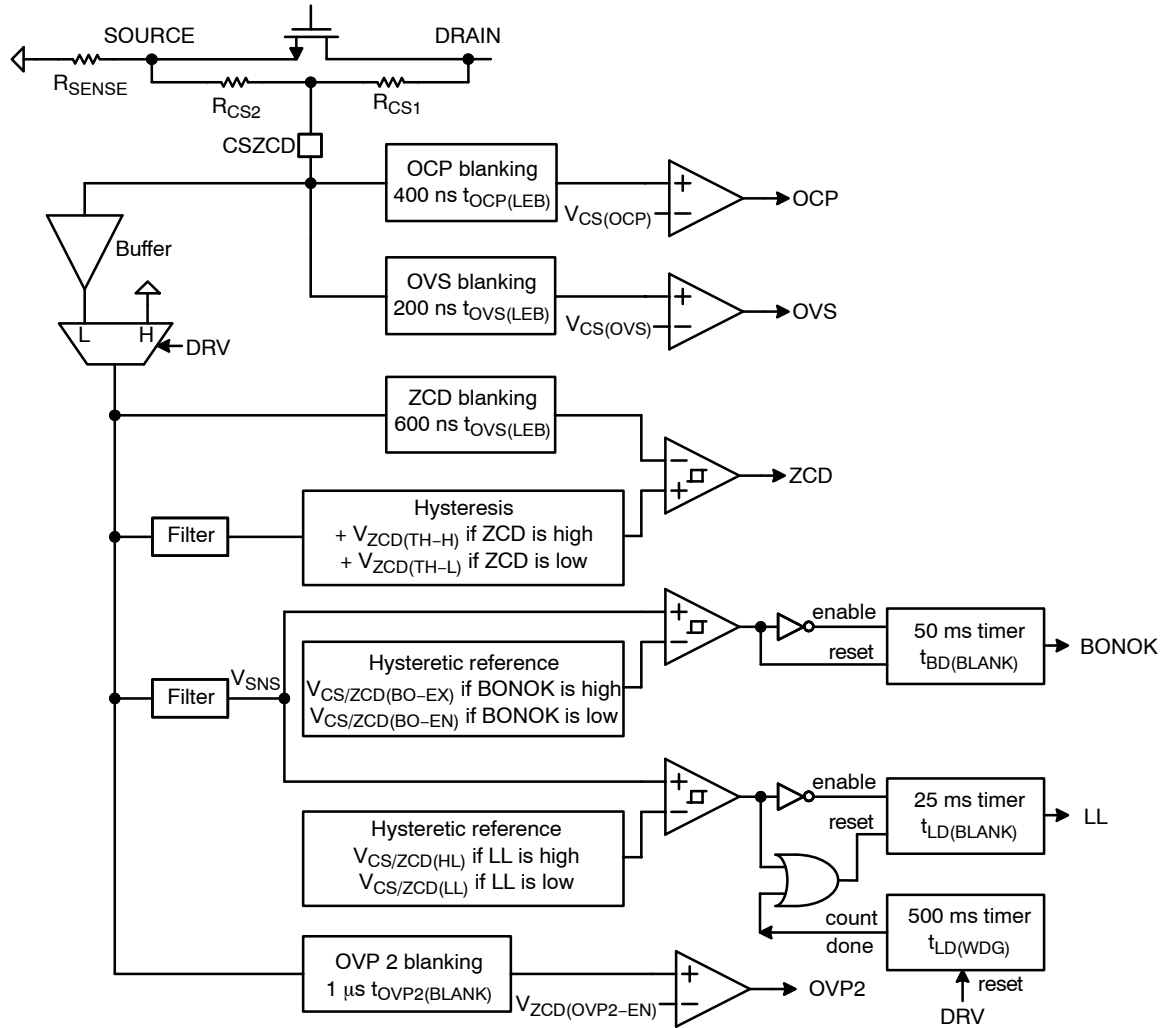

Figure 7. CS/ZCD Internal Circuit Block
As illustrated in Figure 7, the CS/ZCD pin provides the input signal for the following functions:
low-line (LL) detection is set longer than a half-line cycle but not that long to quickly detects an abrupt line transient from high to low. When the line changes from low to high and  $V_{SNS}$  is over  $V_{CS/ZCD(HL)}$ , high line mode is immediately entered. When high-line is detected (that is, when signal “LL” of Figure 7 is low), the loop gain,  $t_{ON} / (V_{CTRL} - V_{CTRL(MIN)}) \mu s/V$ , is divided by about 2.5 to ensure a 2-level feedforward.
As shown in Figure 7, when  $V_{SNS}$  is lower than the brown-out enter voltage ( $V_{CS/ZCD(BO-EN)}$ ) for BO blanking time (50 ms  $t_{BO(BLANK)}$ ), BONOK signal is high and the drive is not immediately disabled. Instead, a 30  $\mu A$  current source ( $I_{VCTRL(BO)}$ ) gradually reduces  $V_{CTRL}$ . As a result, the circuit keeps generating DRV pulses until the STATICOV trips (that is when  $V_{CTRL}$  reaches the minimum clamp level, 0.5 V  $V_{CTRL(MIN)}$  as shown in Figure 6). This method relieves the risk of input voltage bouncing the fault line detection caused by EMI filter oscillation from an abrupt DRV stop.